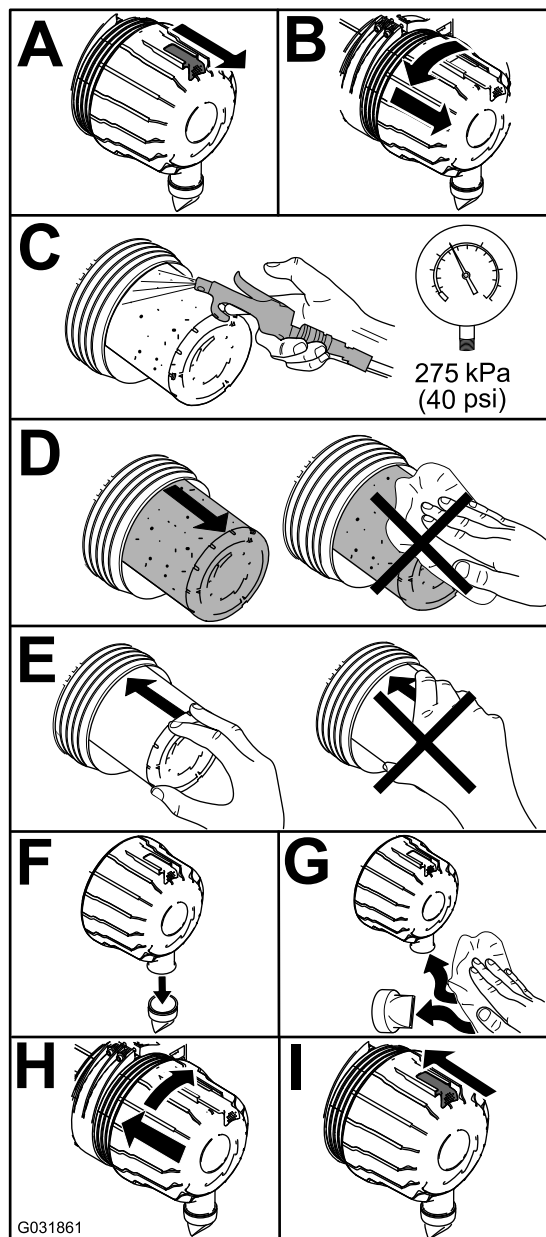

Figure 48
1. Replace the air cleaner (Figure 48).